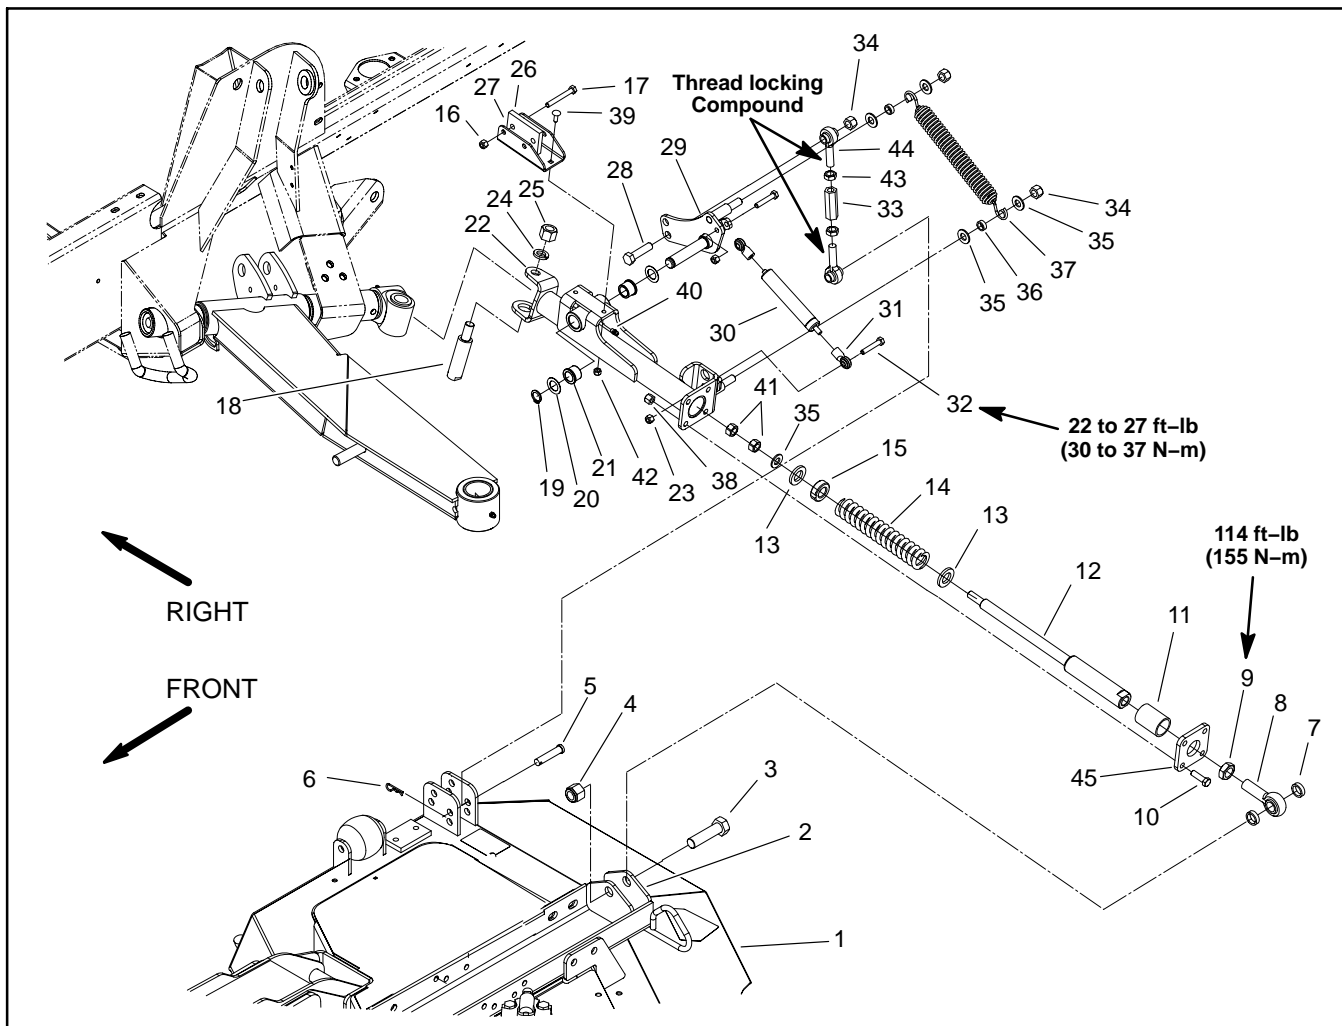
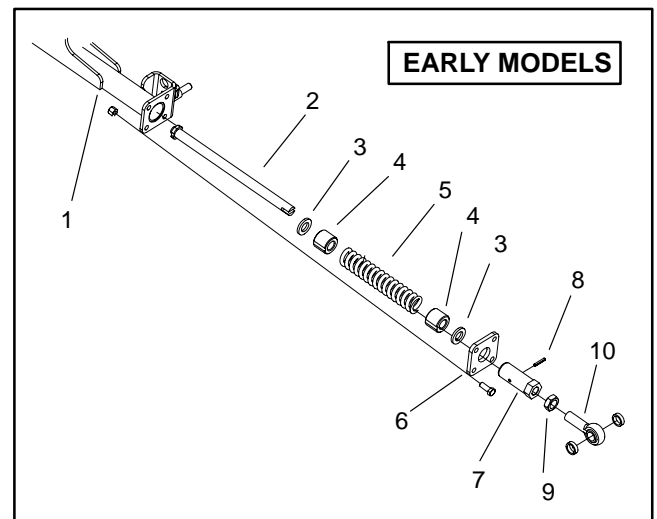

Figure 7
Figure 9
1. Disassemble rear arm assembly using Figure 7 as a guide. **Note:** early models use rear arm components as shown in Figure 9. On these models, roll pin removal will allow coupler to be separated from spring shaft.
Assembly (Figure 7)